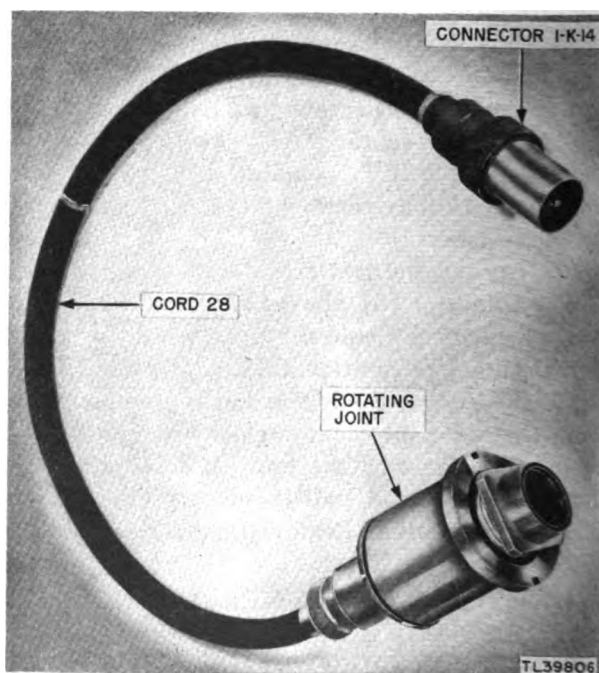

Figure 174. Cord 28 and high-voltage rotating joint.
(3) *Slowly* allow the rotating joint to lower from the pedestal. *Be careful not to damage the connection between cord 28 and connector 1-K-14 while removing the rotating joint (with cord attached, fig. 174) from the pedestal.*